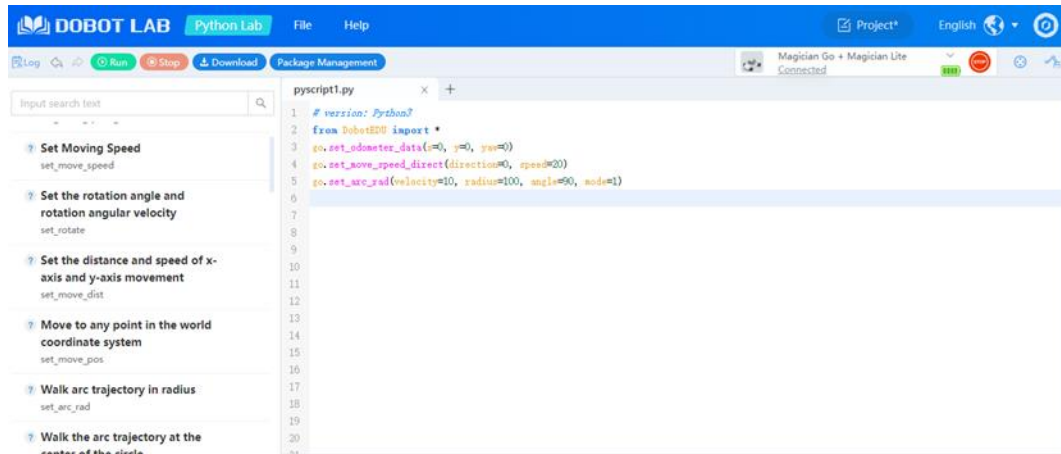

Figure 4.9 Enter Dobotlab
Step 3 Enter DobotLab (<https://dobotlab.dobot.cc/>), as shown in Figure 4.9. Select corresponding device for connection, and the status LEDs of Magician Go show green. Now you can control Magician Go (and Magician Lite) by blockly programming, Python programming and control panel